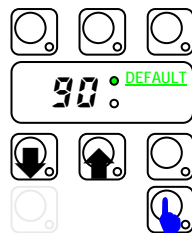

Fig. 3.3
- Use CYCLE\_1 key to decrease the duration and CYCLE\_2 key to increase (Fig.3.3);